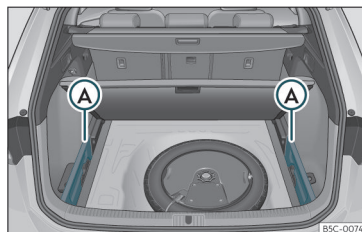

Fig. 111 In the luggage compartment: space to store the retractable shelf.
- Remove the left and right covers»» **Fig. 111** ① **A**.